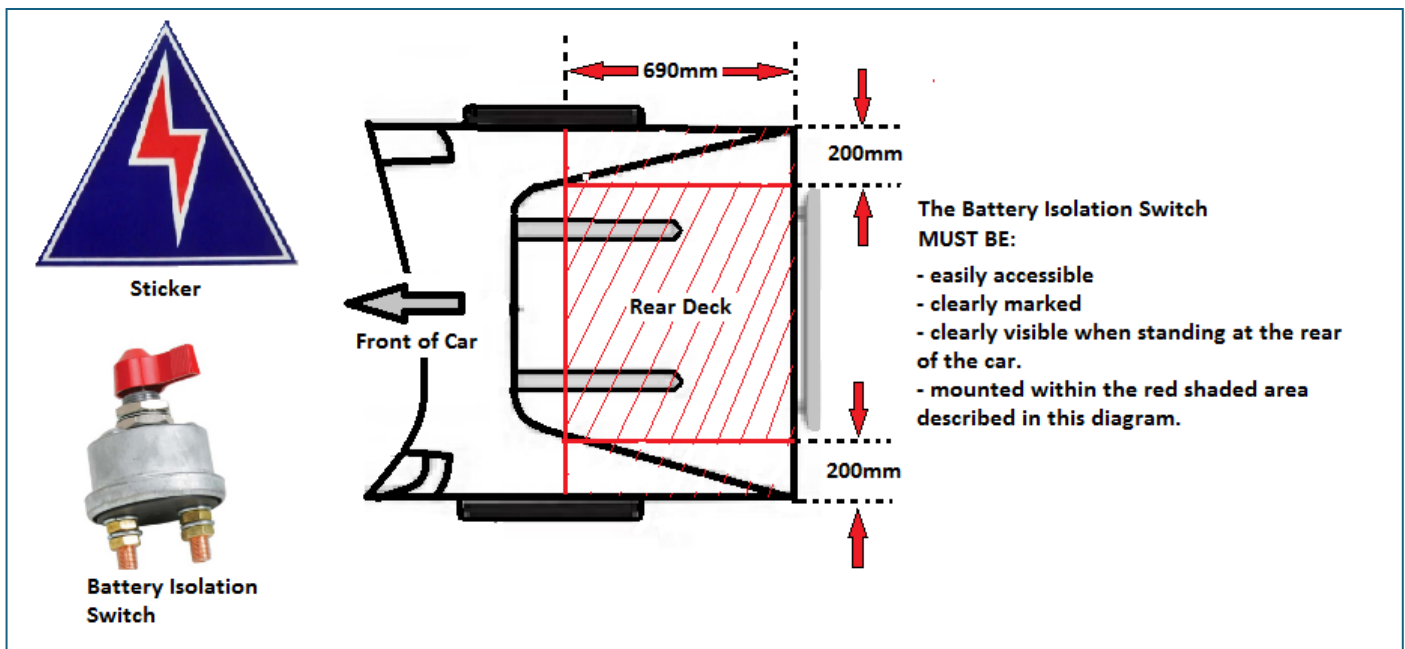

Figure 21
- Be securely mounted to the rear deck and placed no further than 690mm from the back edge of the rear deck and greater than 200mm in from where the sail panels meet the rear deck (Figure 21).*